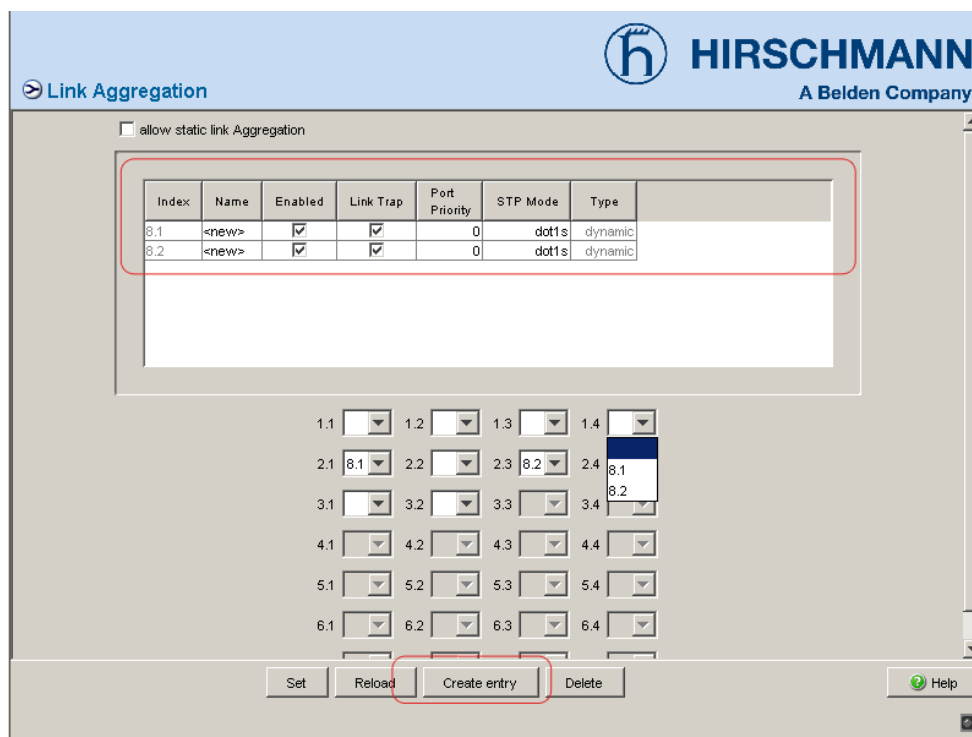

Fig. 3: Setting the link aggregation
- On the first switch to be configured, you select the dialog Redundancy: Link Aggregation (see Fig. 3).